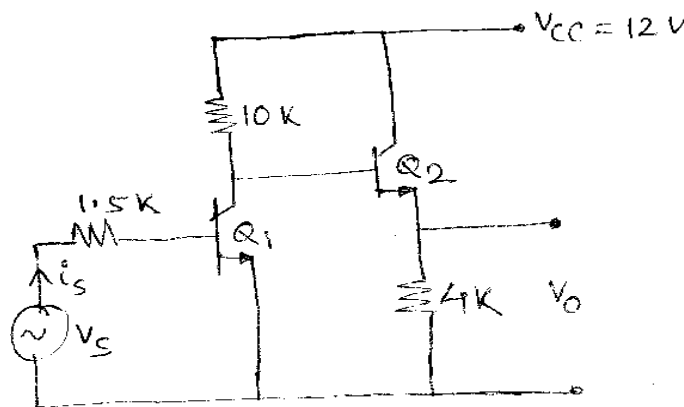

Fig. 4
5. A) For the circuit in fig. 4, transistors used are identical with $h_{ie} = 2k$, $h_{fe} = 100$, $h_{re} = h_{oe} = 0$,